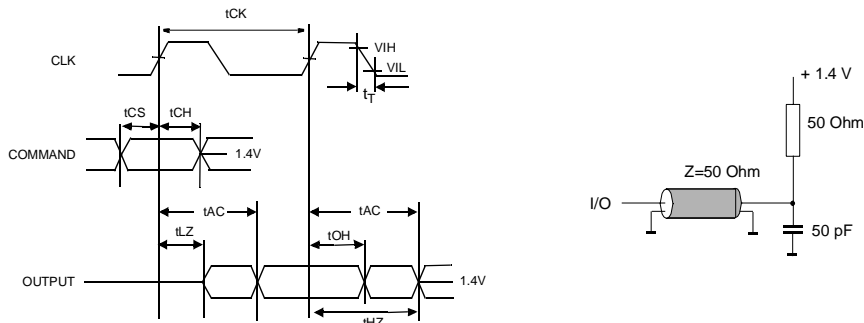

Figure 1.
- AC timing tests have $V_{IL} = 0.8V$ and $V_{IH} = 2.0V$ with the timing referenced to the 1.4 V crossover point. The transition time is measured between V_{IH} and V_{IL} . All AC measurements assume $t_T = 1ns$ with the AC output load circuit shown in Figure 1.